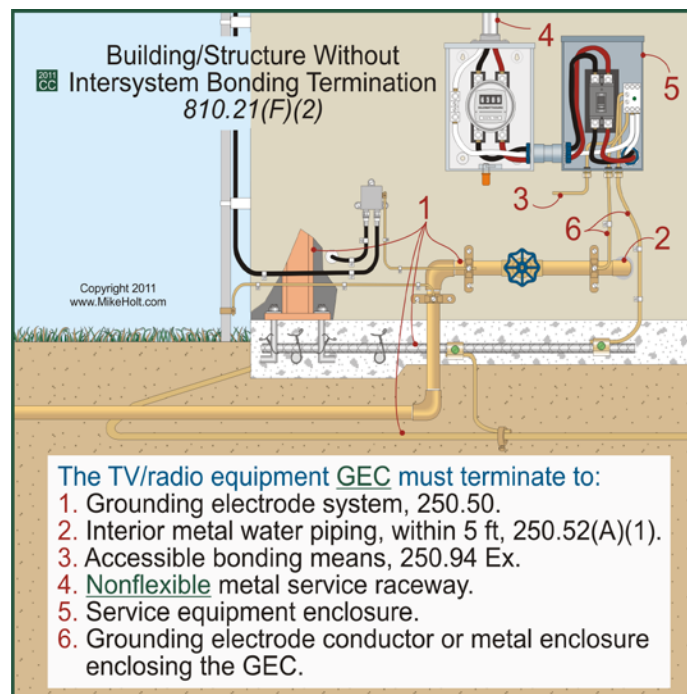

Figure 810-16
(2) In Buildings or Structures Without Intersystem Bonding Termination. The bonding conductor or grounding electrode conductor for the antenna mast and antenna discharge unit must terminate to the nearest accessible location on the following: **Figure 810-16**